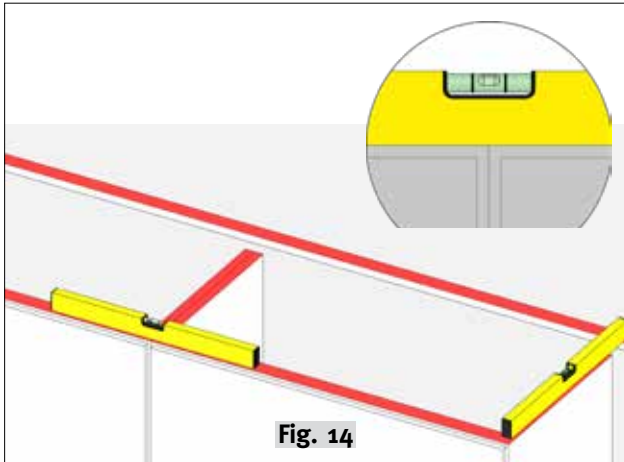

Fig. 14
- 3a. The cabinets should be placed perfectly levelled (fig. 14 and 15).